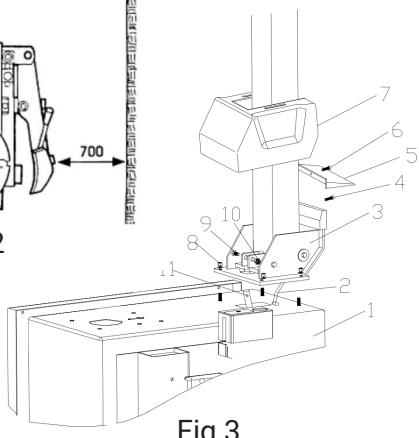

Fig 3
- Place the swing hinges (3, Fig. 3) on the stem (1, Fig. 3) with 4 screws (M12), thread the air hose (2, Fig. 3) through the hole in the pillar. Tighten 4 locknuts (8, Fig. 3).
- Insert the bolt (9, Fig. 3) into the holes in both the column and the inclined cylinder arm (11, Fig. 3), tighten it with a lock nut (10, Fig. 3).
- Unscrew the two bolts on the left cover and remove the cover, connect the air hose (2, Fig. 3) as previously mentioned to the side holes
- Fasten the plastic cover (7, Fig. 3) with two bolts (4, Fig. 3).
- Mount the rear plastic cover (5, Fig. 3) the column with a screw (6, Fig. 3).